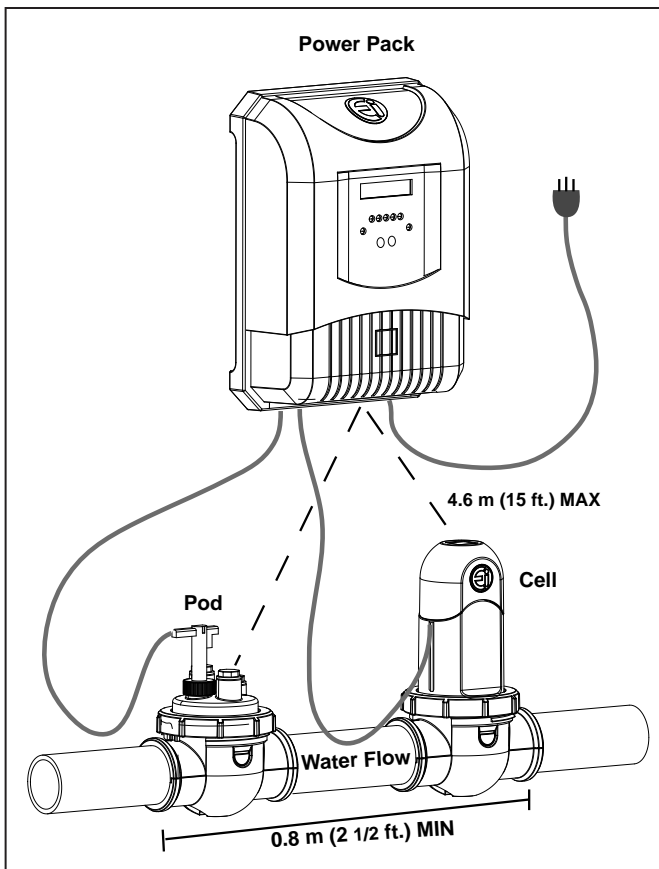

Figure 3. Installation Requirements
It is required that the water flow pod is installed in the same piping as the electrolytic cell, without any valves or diverters between them (see Figure 3).
The flow pod must be mounted as shown in Figure 3.
- The cell must be installed on a 0.8 m (2 ½ ft.) horizontal length of pipe after the heaters, pumps, and filters, as the last piece of equipment in the plumbing system (see Figure 3).
- The cell and pod must be installed no more than 4.6 m (15 ft.) from the power pack (see Figure 3).